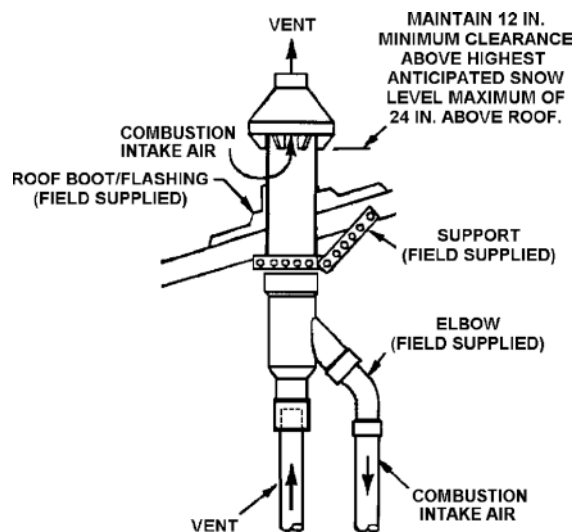

Figure: 27
- Secure assembly to roof structure as shown in "Figure: 27" using field supplied metal strapping or equivalent support material.
NOTE: Ensure termination height is above the roof surface or anticipated snow level as shown in "Figure: 27".
- Cement water heater combustion air intake and vent pipes to concentric vent termination assembly. See "Figure: 27" for proper pipe attachment.